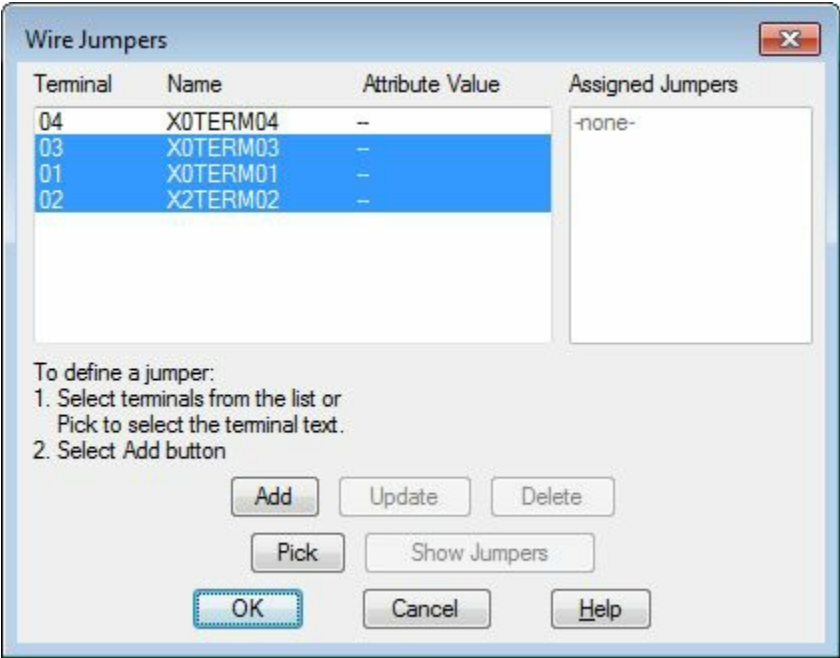

Figure-9. Wire Jumpers dialog box with terminals selected
- Press ENTER. The **Wire Jumpers** dialog box will be displayed with the jumpers selected; refer to Figure-9. Note that the **Add** button is active now.